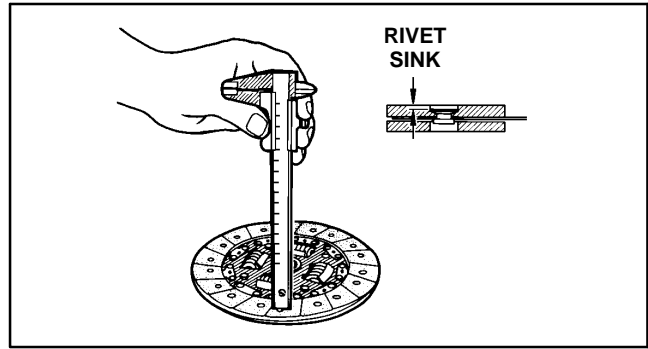

Figure 20
5. Measure rivet sink and replace clutch disk if out of specification (Fig. 20).